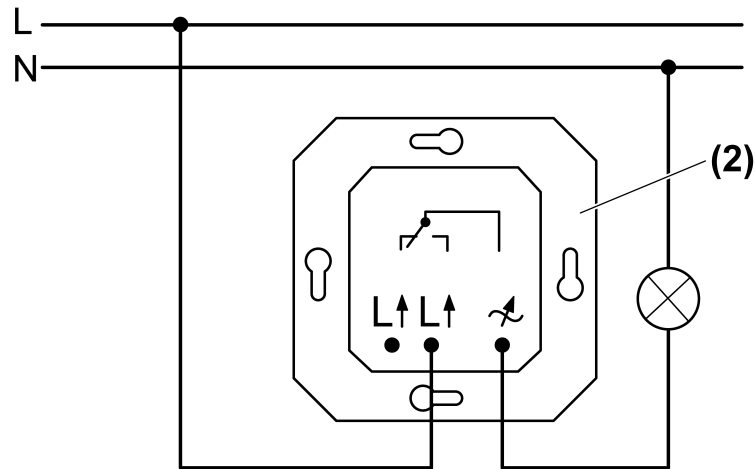

Figure 2: Connection diagram
- Connect the dimmer (2) according to the connection diagram (figure 2).